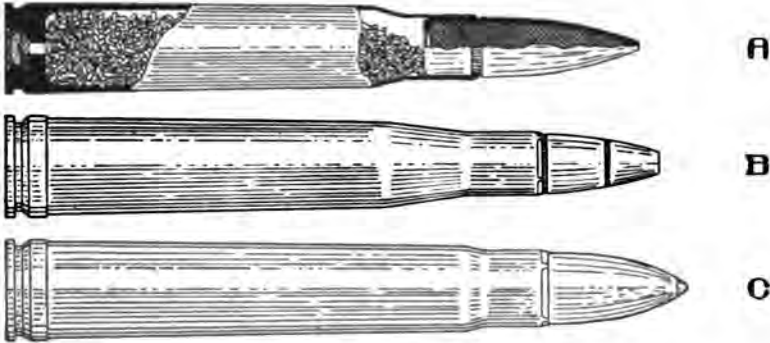

FIGURE 54. MODERN RIMLESS AND BELTED CARTRIDGES
**.30-06 Cartridges**. When the U.S. Rifle, Caliber .30, Model 1903, popularly known as the "Springfield Rifle," was first issued to our Regular Army in 1905 to replace the formerly standard U.S. Magazine Rifle, Caliber .30, Model 1898, popularly known as the "Krag Jorgensen Rifle" it used a rimless cartridge loaded with a 220 grain bullet, and with a muzzle velocity of 2300 f.s., later reduced to 2200 f.s. This cartridge was known officially as the "Ball Cartridge, Caliber .30, Model 1903." About this time Germany made a change in the ammunition for their Model 1898 rifle, altering it to shoot a light bullet weighing 154 grains at the very remarkable velocity (in those days) of 2800 f.s. This light bullet had a very sharp point, and was known as a *spitzer* bullet. The flat trajectory of this German cartridge presented such military advantages that it was decided to rechamber all of the Model 1903 rifles that had already been issued for a similar cartridge and thereafter to make all new Model 1903 rifles for this cartridge. The cartridge as finally designed was loaded with a 150 grain cupronickel jacketed bullet with a sharp point, and the muzzle velocity given it was 2700 f.s. See Figure 54. This new cartridge was officially called the "Ball Cartridge, Caliber .30, Model 1906." Thus we had a *Model 1903 rifle taking a Model 1906 cartridge*. This cartridge was the forerunner or father of all the vast number of cartridges which have become to be popularly known as ".30-06" cartridges. It is the most popular cartridge in existence at this writing, both for extreme accuracy on the target range or for use in the hunting field.